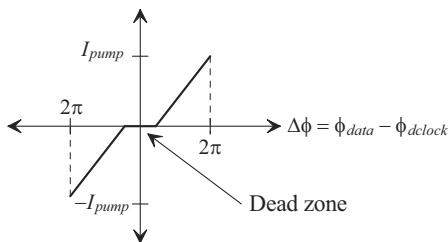

Figure 19.77 Showing the dead zone in a PFD/charge-pump.
- 19.14** Using the PFD in Fig. 19.33 and the charge pump in Fig. 19.36, demonstrate, with simulations, how the gain of PFD/charge-pump configuration can have a dead zone (the gain, K_{PDL} , decreases) as seen in Fig. 19.77.